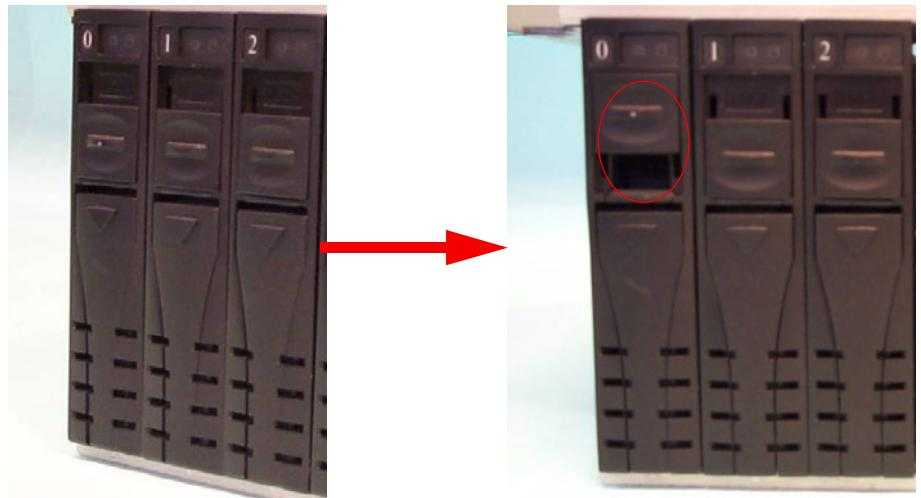

Figure 5.5: Pushing up the latch
2. Push up the latch on the mobile tray (See Figure 5.5).